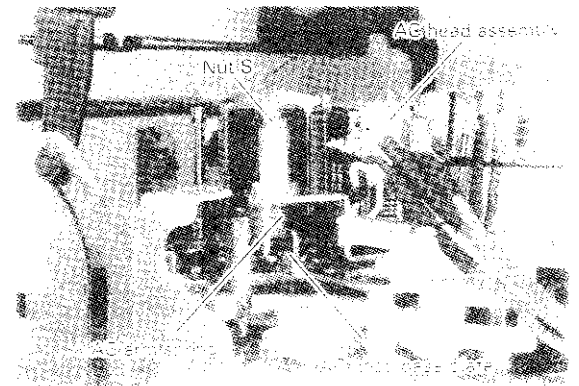

Fig. 3-13-2
- (6) Remove the nut S which is fixing the AC head assembly while holding the head assembly so as not to come in contact with the peripheral parts. (See Fig. 3-13-2).
- (7) While pressing the AC arm spring, take the AC head assembly toward to separate from the head base plate.
- (8) Remove three screws (3) (Fig. 3-13-2) which are fixing the AC head to the AC head arm and the AC spring, and take the AC head off the AC head arm.
- (9) Remove the lead wires connected to the AC head.
- (3) Fix the AC head with two screws (5) (Fig. 3-13-2) so that the mounting part of the AC head is kept parallel to the AC head arm.
- (4) Attach the AC head to the AC head arm with the AC head arm spring. Push the AC head arm spring to contact with the AC head base plate and the AC head arm. (See Fig. 3-13-2).
- (5) Attach the nut S to the AC head assembly. Tighten the nut S with the range cover (4) open. Push the AC head assembly to the bottom of the cassette housing.
- (6) Turn the nut S off the AC head assembly downward.
- (7) Attach the lead wires to the AC head base plate, and attach the lead wire connector to the AC head base plate. (See Fig. 3-13-2).